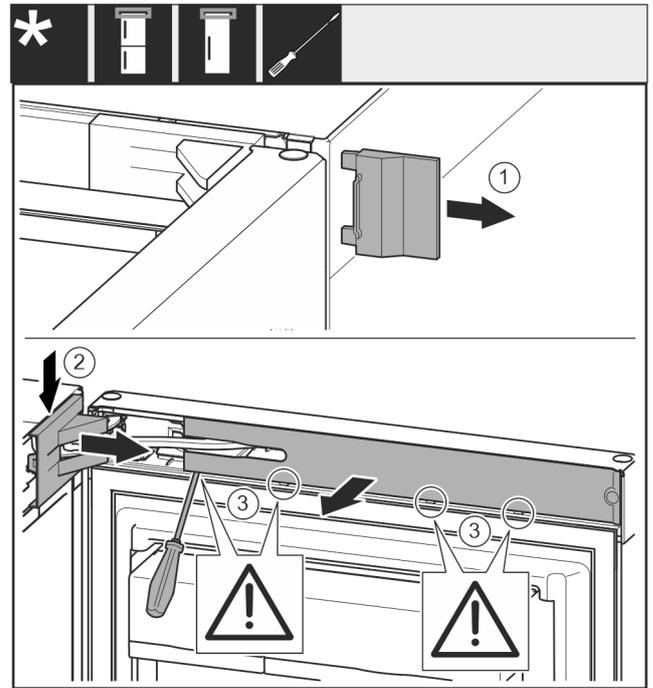

Fig. 12
- ▶ Remove cover Fig. 12 (1).
- ▶ Disengage and loosen the swap bearing block cover Fig. 12 (2).
- ▶ Remove the swap bearing block cover Fig. 12 (2).
- ▶ Use a slotted screwdriver to unlatch the trim Fig. 12 (3) and swing it to the side.